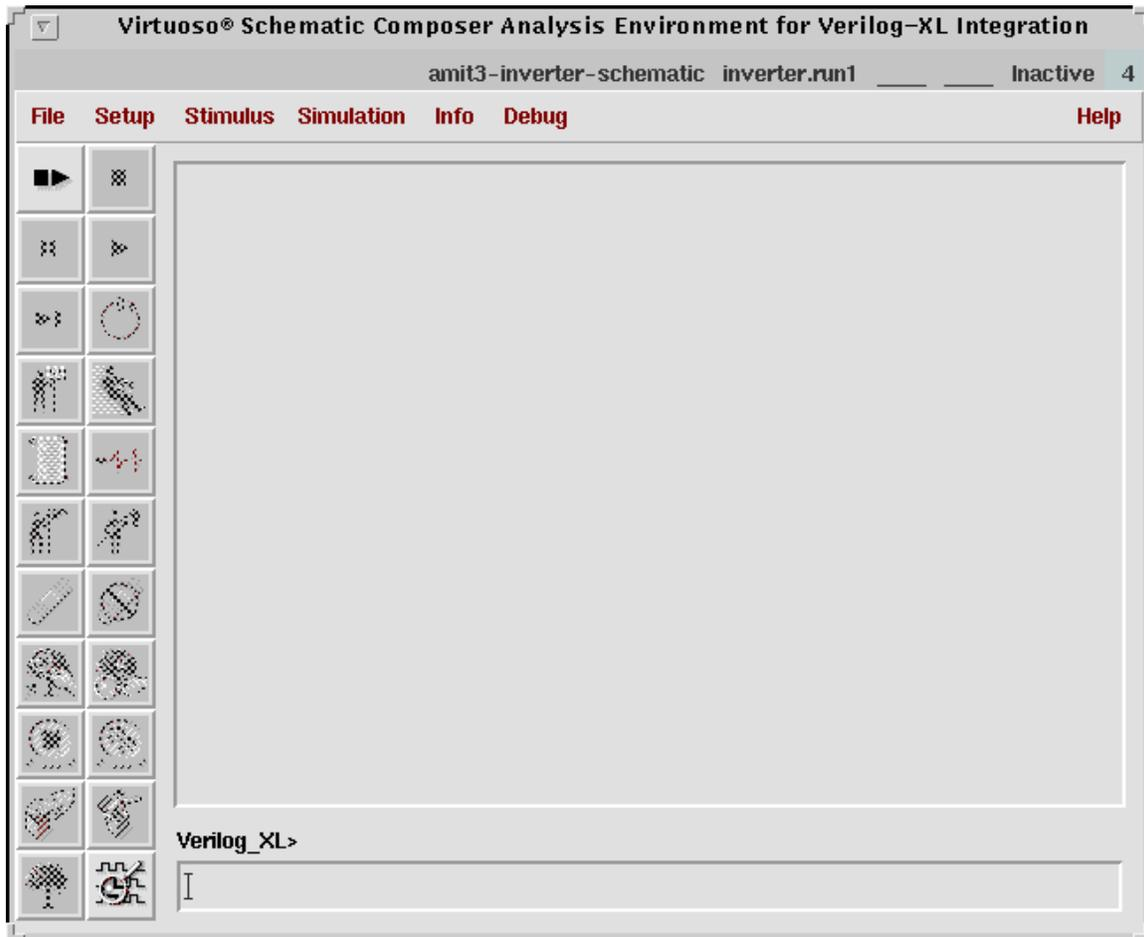

Fig 3: Environment for Verilog-XL Integration
- c. The “Virtuoso Schematic Composer Analysis Environment for Verilog-XL Integration” window opens as shown in Fig 3 and the inverter.run1 directory is created.
- a. In Fig 3 set the netlisting options by selecting *Setup* -> *Netlist*. The “Verilog Netlisting Options” form opens as shown in Fig 4.